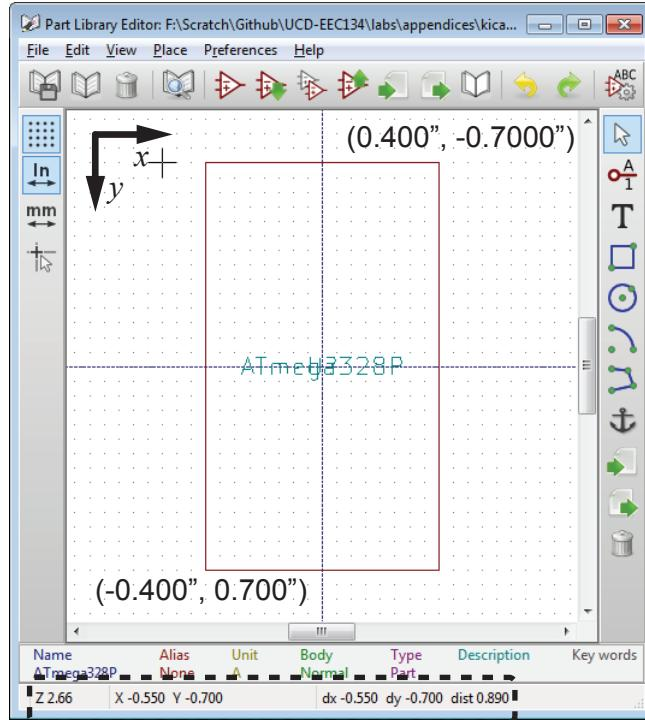

Figure 11: Drawing a rectangle in the library editor main window with the help of the built-in coordinate system.
6. Click the “Add graphic rectangle to the component body” button , and use the mouse cursor to draw a rectangle from ($x = -0.400"$, $y = 0.700"$) to ($0.400"$, $-0.700"$) (Fig. 11). The current position of the cursor is displayed in the status bar at the bottom of the main window. Notice that the positive direction of the y –axis points downward.